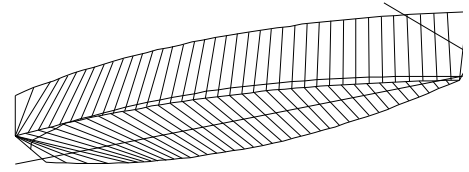

Fig. 12
- 6 Open DEVSURF1** from the **\Examples folder**. This is a single-chine boat hull made from two Developable Surfaces, sharing the common edge 'chine' (Fig. 12).